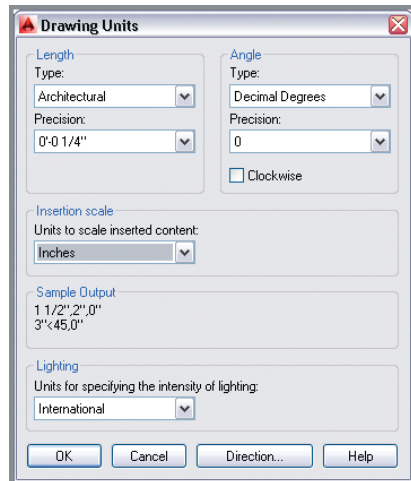

FIGURE 14.14 Setting architectural drawing units
4. Type **UN** (for Units), and press Enter. Choose Architectural units (or Decimal units in metric) with a precision of 1/4" (metric users choose a precision of 0.0). Set Units To Scale Inserted Content under the Insertion Scale area to Inches (or Centimeters in metric) (see Figure 14.14). Click OK.